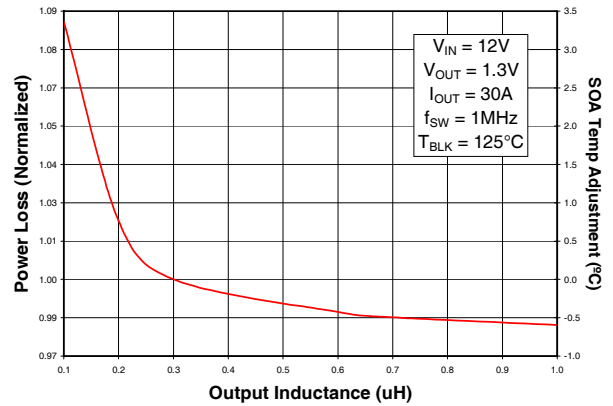

Fig. 6: Normalized Power Loss vs. Inductance
- (Fig. 6) Normalized power loss for inductor value  $\approx 1.02$
- (Fig. 6) Normalized SOA Temperature for inductor value  $\approx 0.75^\circ\text{C}$